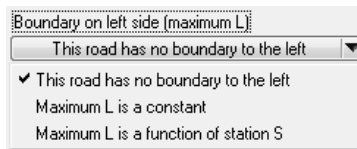

Figure 44. Drop-down control to choose an option for locating an edge boundary.
- ⑨ Drop-down control to specify an option for a boundary for the left side of the road (Figure 44). If a boundary exists, it is defined by a maximum value of L , which can be a constant or a function of station S .